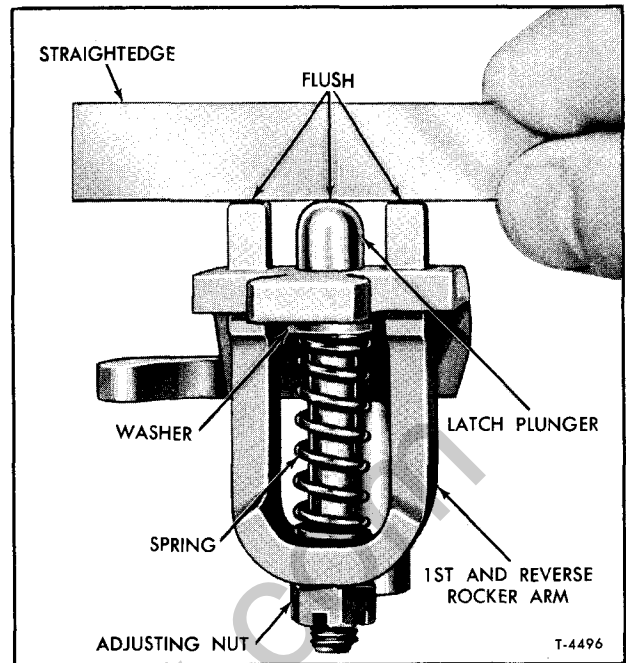

Figure 7—Reverse Latch Plunger Adjustment
2. Position selector arm and shaft assembly (22) and spacer (23) in housing, then install washer (14) and snap ring (15).
3. Assemble reverse latch plunger (24), washer (27), spring (28), and nut (29) to 1st and reverse rocker arm (26).
4. Adjust reverse latch plunger so rounded end is flush or slightly below the two flat ends of the 1st and reverse rocker arm as shown in figure 7. Secure adjusting nut in proper position with a cotter pin. Install reverse latch plunger assembly in housing.
5. Position shift finger (21) in housing (33); then install shifter shaft (12) in housing, aligning splines of shifter shaft with splines of selector sleeve and ball assembly (25), and hole in shifter shaft with hole in shift finger (21).
6. Install shift finger screw (20). Tighten screw to 25 foot-pounds torque and secure with lock wire.
7. Install attaching parts that retain shifter shaft collar (11) to shifter shaft (12).
8. Install attaching parts that hold shift lever assembly (7) to shift lever mounting bracket (5). Tighten nut to 25-31 foot-pounds torque.
9. Install attaching parts that hold shift lever mounting bracket (5) to housing (33). Be sure shift lever assembly (7) is properly seated in slot of shifter shaft collar (11).
10. Position selector lever (18) on selector arm and shaft assembly (22), so that the selector lever is perpendicular to the gasket side of the housing (33). Tighten nut (16) firmly.